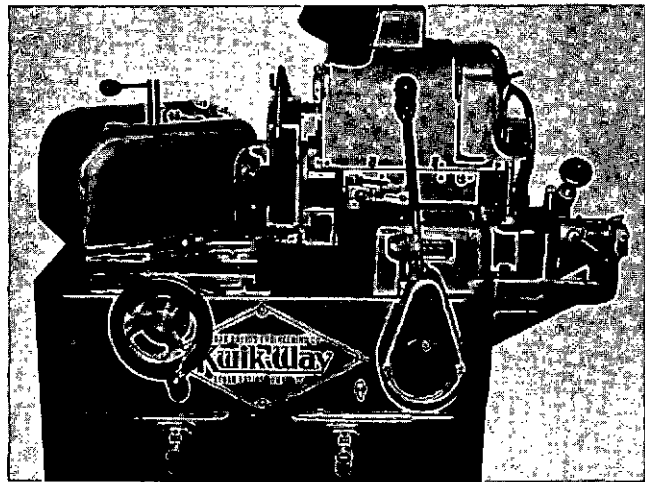

Fig. 2-5-3, N10230. Reface valve
a. Chuck valve on guide area of stem. Fig. 2-5-3. Relieved portions on both ends of guide area are not necessarily concentric to guide area of stem.